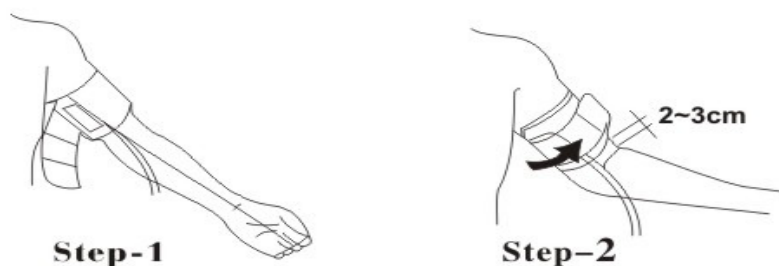

Figure 6
- ★ Unless your physician recommends otherwise, always use the left arm to measure your blood pressure. **See Figure 6**